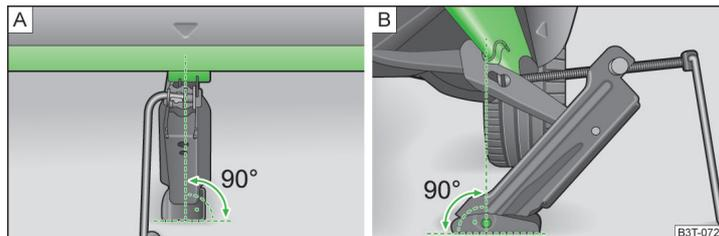

Fig. 181 Attach lifting jack
The mounting points are located on the metal bar of the lower sill on the underside of your vehicle. The positions of these are embossed by means of markings on the side surface of the lower sill » Fig. 181.
- › Support the base plate of the jack with its full area resting on level ground and ensure that the jack is located in a vertical position at the jacking point » Fig. 181 - **A**.
- › Position the lifting jack below the jacking point with the crank and move it up until its claw encloses the web » Fig. 181 - **B**.